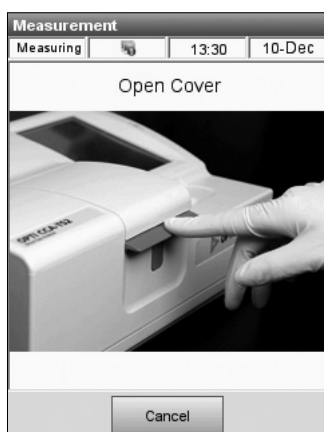

Fig. 5-6 Open SMC Cover
5. Press down on the red latch to open the Sample Measurement Chamber (SMC) (Fig. 5-6).